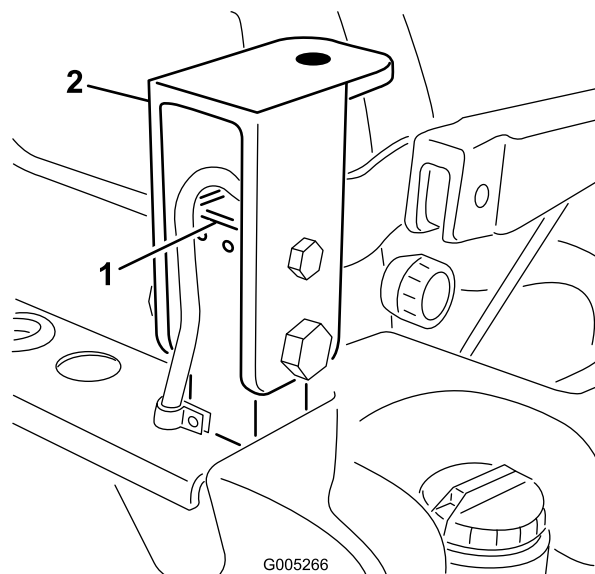

Figure 96
3. Loosely install a cab mount support to each ROPS post with two bolts (1/2 x 3 inches), two nuts (1/2 inch), two bolts (3/4 x 3-1/2 inch) and two nuts (3/4 inch) (Figure 96). Make sure the top plate hole is positioned forward. Do not tighten bolts at this time.